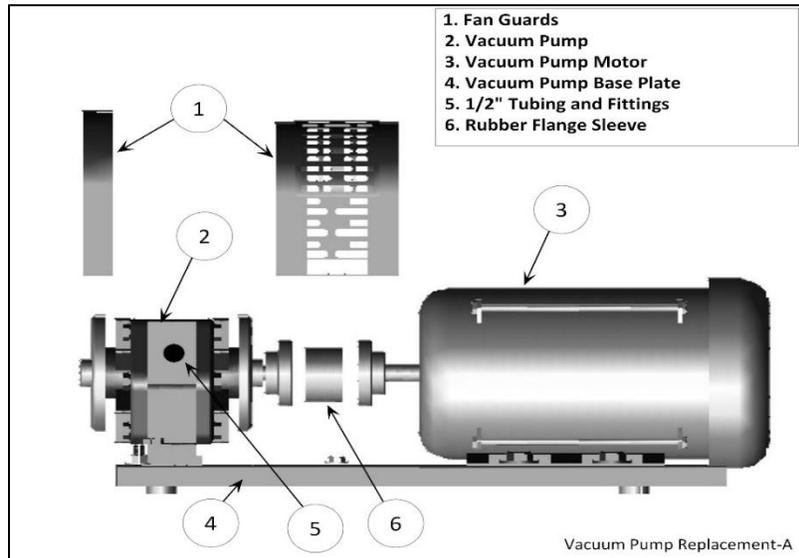

Figure 9-22: Vacuum Pump Assembly and Components
1. For the Vacuum Pump Assembly and Components, **See Figure 9-22.**
4. Remove the fan guard (the large center guard #1 in **Figure 9-22**) for access to the coupling flanges and removal of the Vacuum Pump.
**See Figure 9-22.**